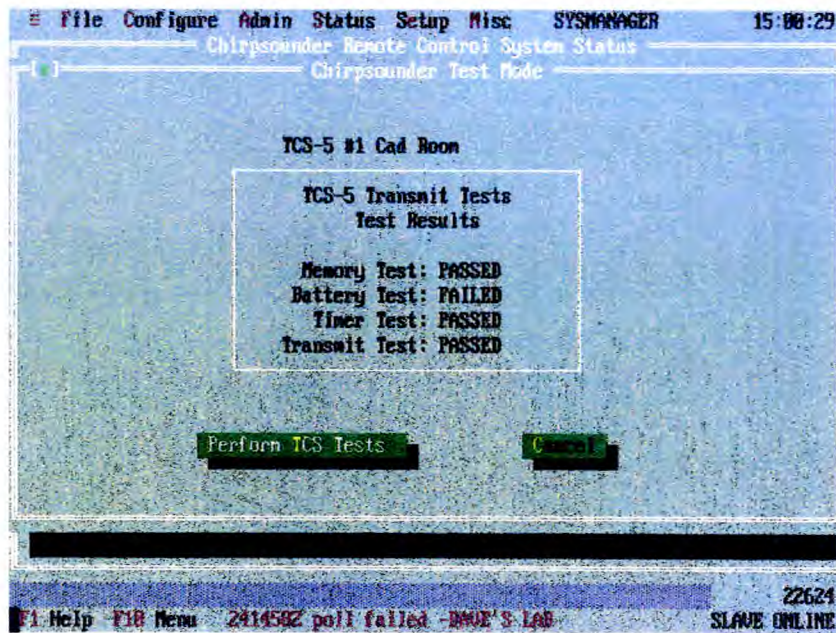

Fig 64
92.2 On successful completion of the tests, the screen shown in Fig. 64 is displayed.